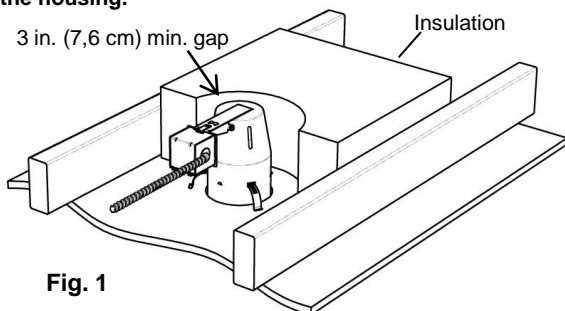

Fig. 1
NOTE: This fixture is a Non-IC type housing. Do not install insulation within 3 in (7,6 cm) of the housing. (Fig. 1) In addition, the housing must be installed at least 1/2" (1,3 cm) away from any combustible material, such as a wood joist or floorboard. The ceiling surface is exempt from this requirement and may be in contact with the bottom part of the housing.
2. Clear out any insulation necessary to maintain the 3" (7,6 cm) spacing specified in the **"CAUTION"** section found in the beginning of these instructions. (See Fig. 1)